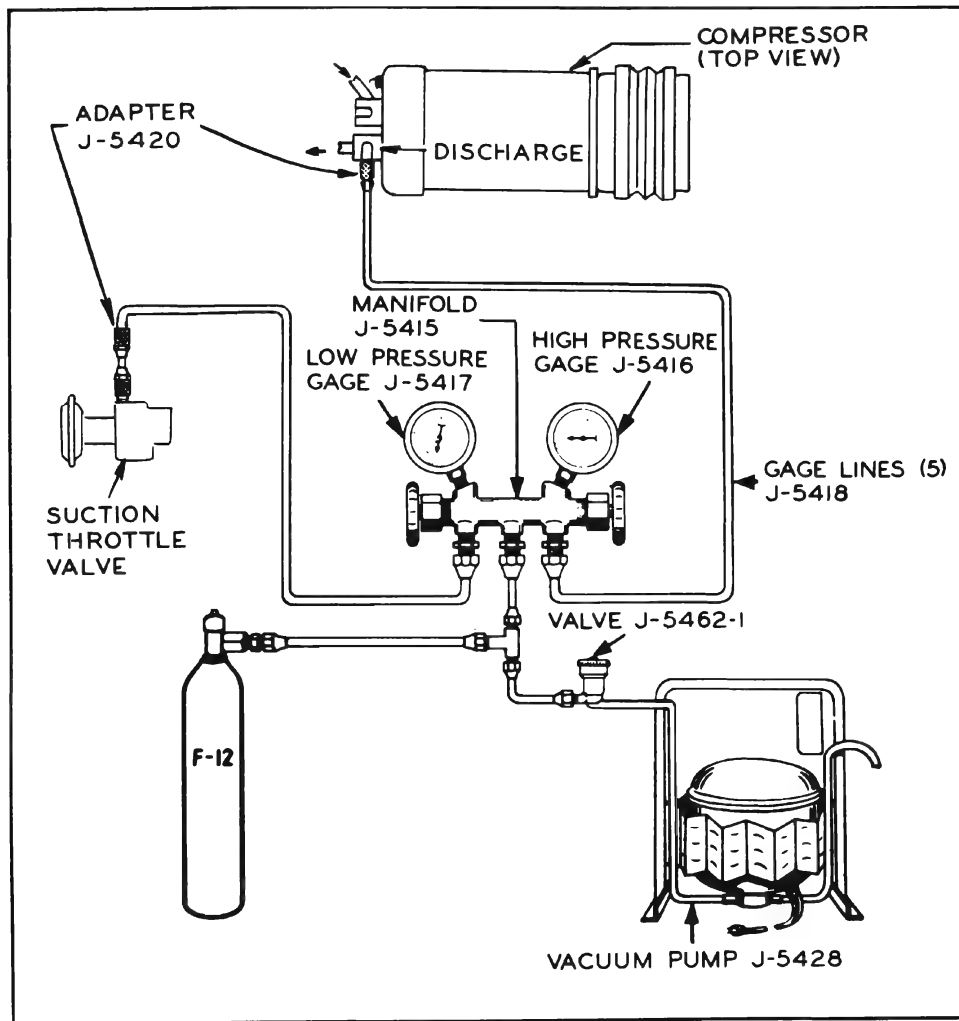

Figure 11-153—Setup for Evacuating, Leak Testing and Charging System
1. Attach gauge lines, adapters and vacuum pump set-up as shown in Figure 11-153 and discharge any refrigerant that may be in system.
1. With the vacuum pump, refrigerant-12 cylinder and gauge set connected to the compressor as shown in Figure 11-153, place the cylinder in a bucket of hot water which does not exceed 125°F.
7. Check ambient air temperature and air temperature at right air outlet following instructions on functional test charts. See Figures 11-154 and 11-155. Temperature should correspond with those listed on chart. If temperatures do not compare, attach gauge set (Figure 11-153) and functional test air conditioner.
5. Gauge set connected to Schrader valve fittings as shown in figure 11-153.
4. Gage set connected to Schrader valve fittings as shown in Figure 11-153.